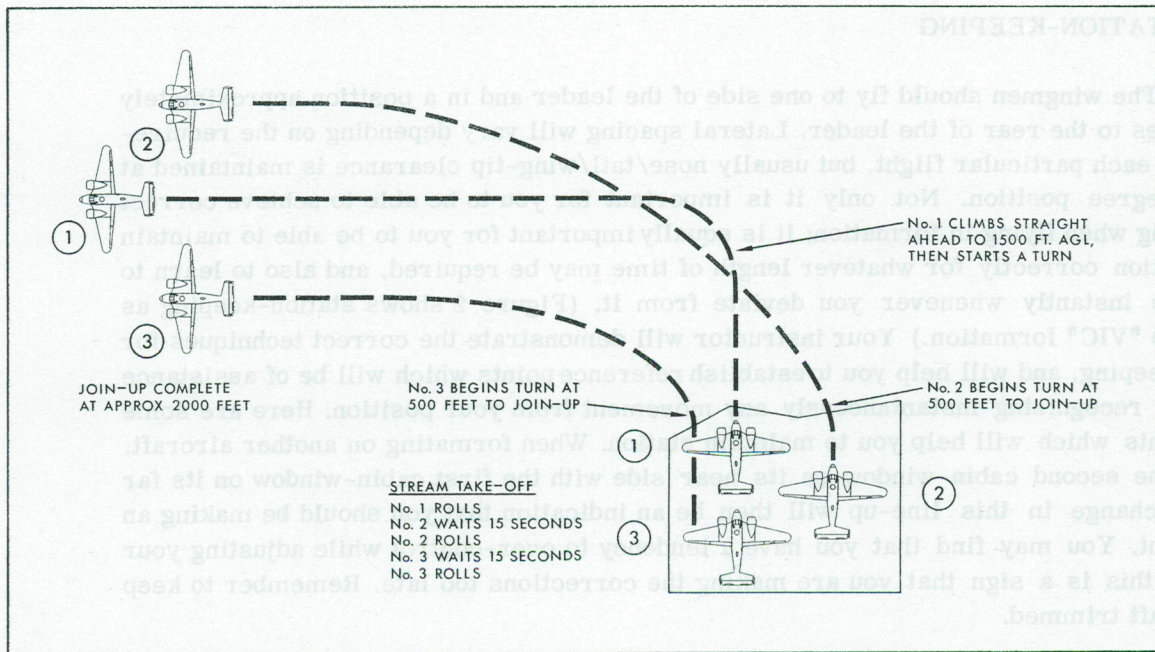

Figure 1. Stream Take-off and Join-up
(1) When taking off in formation, the "stream" take-off with a time-interval of fifteen seconds between aircraft, is the most commonly used method. When weather conditions are poor and visibility is reduced - for example in snow or rain showers - either this time-interval is increased to more than fifteen seconds, or alternatively, the aircraft may fly out on divergent tracks. If the latter method is used, the aircraft are then able to rendezvous above the bad weather. Before a "stream" take-off, the aircraft are lined up alternately on either side of the centre line of the runway. At a given signal, the leader begins his take-off roll; the other members of the formation begin to time their own take-off from that moment. (Figure 1).